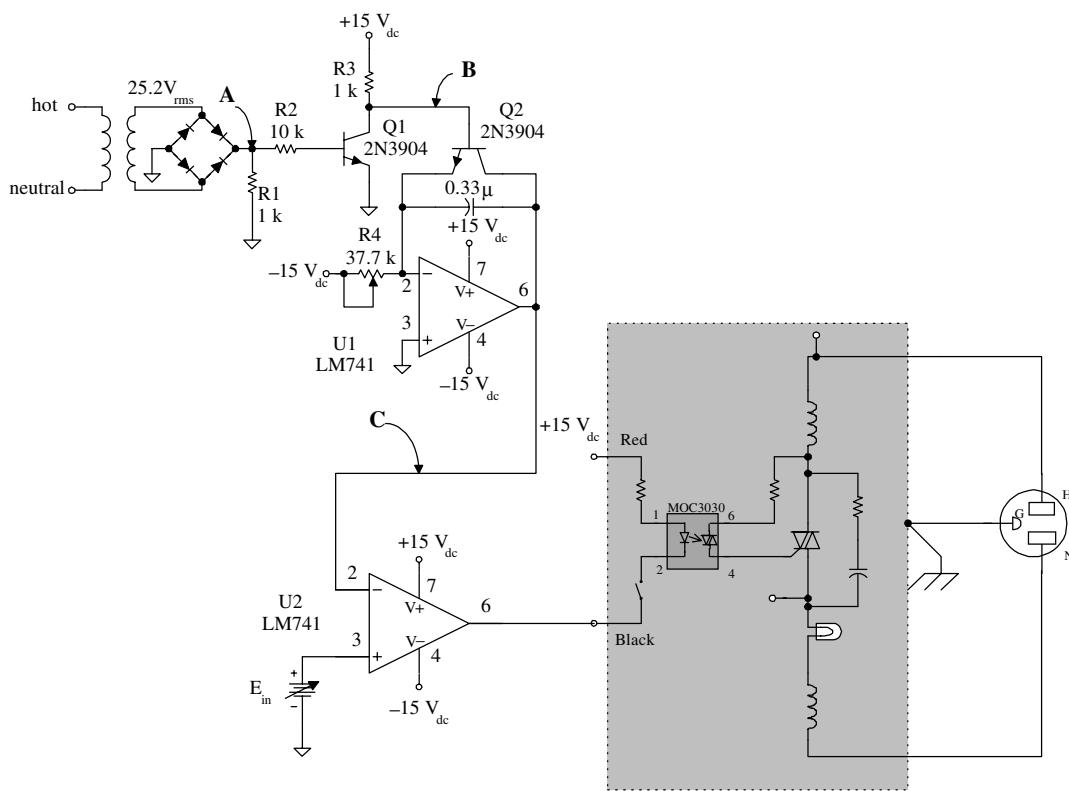

Figure 8-42 Phase angle firing schematic
1. Look at the circuit in Figure 8-42. This is a simplified version of Figure 8-30. Begin by building the transformer, the bridge rectifier, and R1 only.